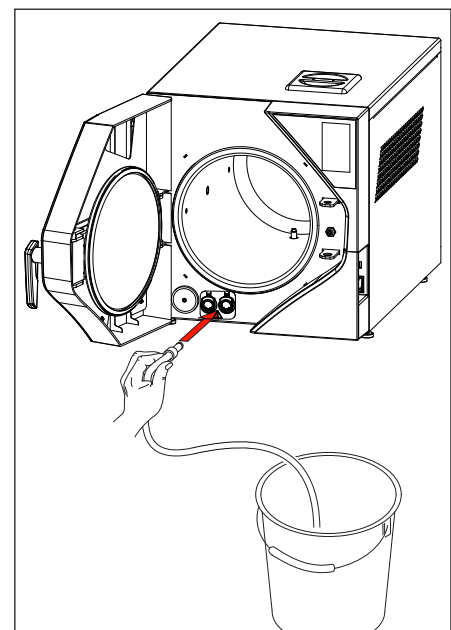

fig.5
2. Insert the drain hose into the grey hose connection on the front of the device (Fig. 5);